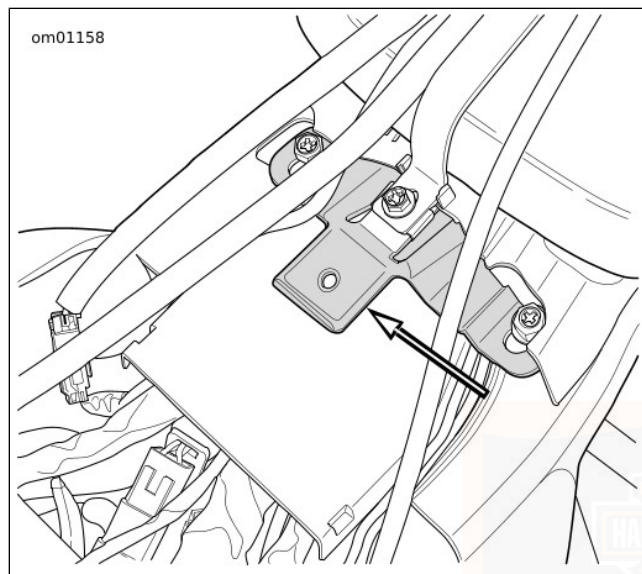

Figure 95. Seat Tongue
3. See Figure 95. While pushing seat forward, raise rear of seat until bracket clears top of body assembly. Push seat rearward slightly to free seat from tongue on rear fuel tank bracket.
4. See Figure 95. While pushing seat forward, raise rear of seat until bracket clears top of Tour-Pak. Push seat rearward slightly to free seat from tongue on rear fuel tank bracket.